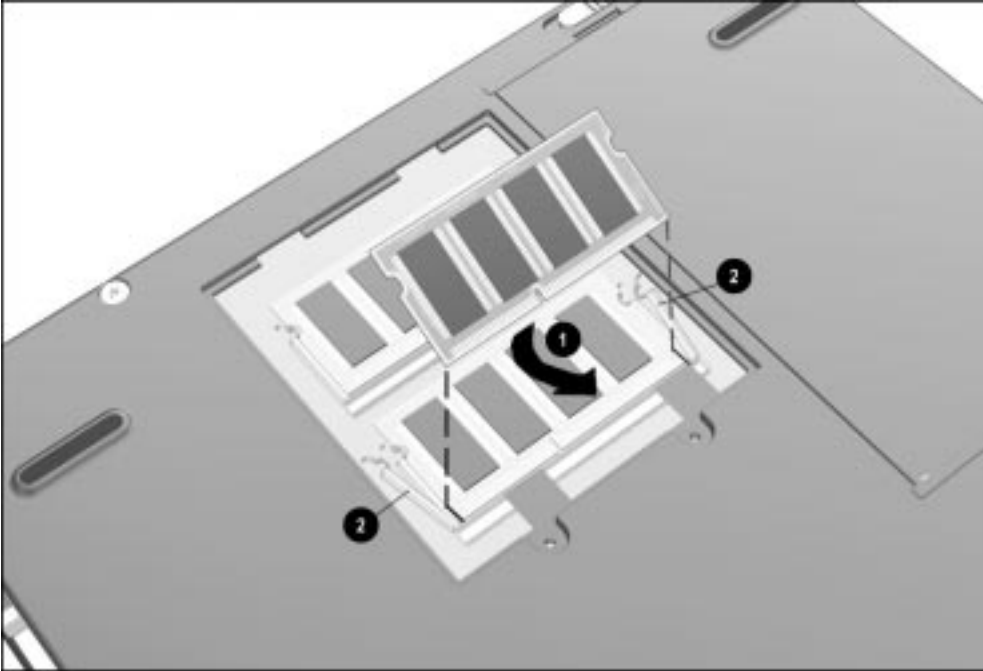

Figure 5-18. Installing a Memory Expansion Board
1. Insert the memory expansion board into an empty memory expansion slot at a 45-degree angle ❶ (Figure 5-18).
3. Push the memory expansion board down until the board is seated in the retention clips ❷.